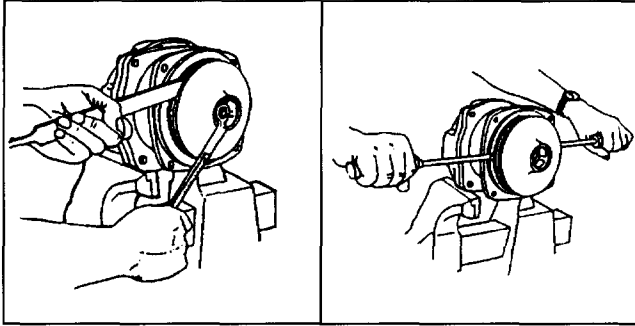

Figure 46
2. To remove the impeller nut, insert a large screwdriver or file (at least 10" long) into impeller vanes to prevent impeller from turning when loosening nut. Use a 5/8" socket wrench to remove the impeller nut by turning it counterclockwise. See Fig. 46.
3. Once nut is removed, place a screwdriver on each side (as in Fig. 46) behind the impeller and pry away from the mounting flange. Remove woodruff key from the shaft. Remove O-ring from the mounting flange.
1. Lightly lubricate shaft for easier removal of seal. Using two screwdrivers positioned opposite each other, pry the rotary portion of the seal from the shaft. See Fig. 46.